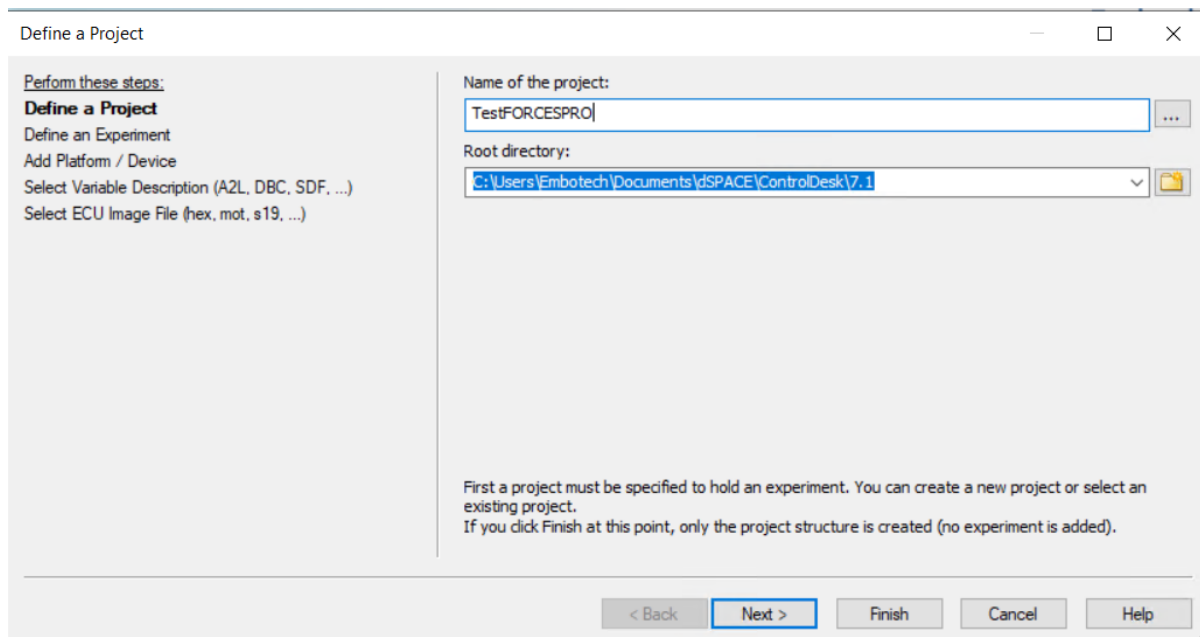

Figure 12.76: Start a new project and name it.
- 2) Open dSpace Control Desk and select create new project and name it (see Figure 12.76).